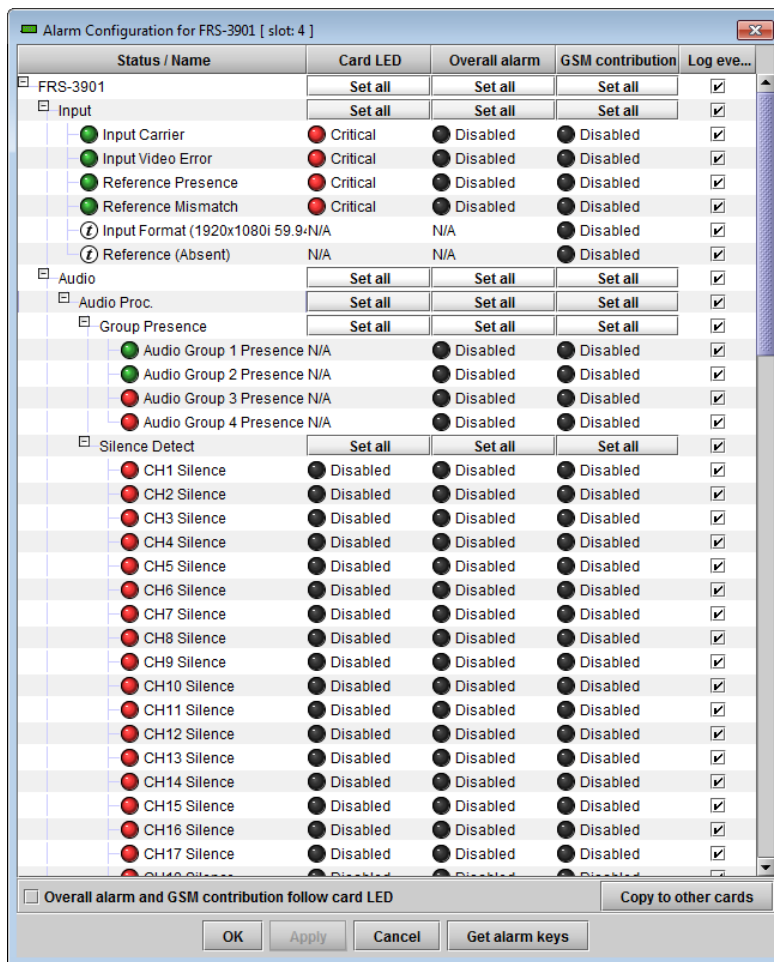

Figure 5-60 Alarm Configuration panel
**Figure 5.60** shows the application. When DV is present on embedded input channels 7-8, it is passed to the output. When not present, a downmix version of the main 5.1 will be used. It has been determined by the customer that the audio level on the DV channels is always above -72 dBFS because of the noise floor. If it goes below that threshold, we can assume there is no audio present.